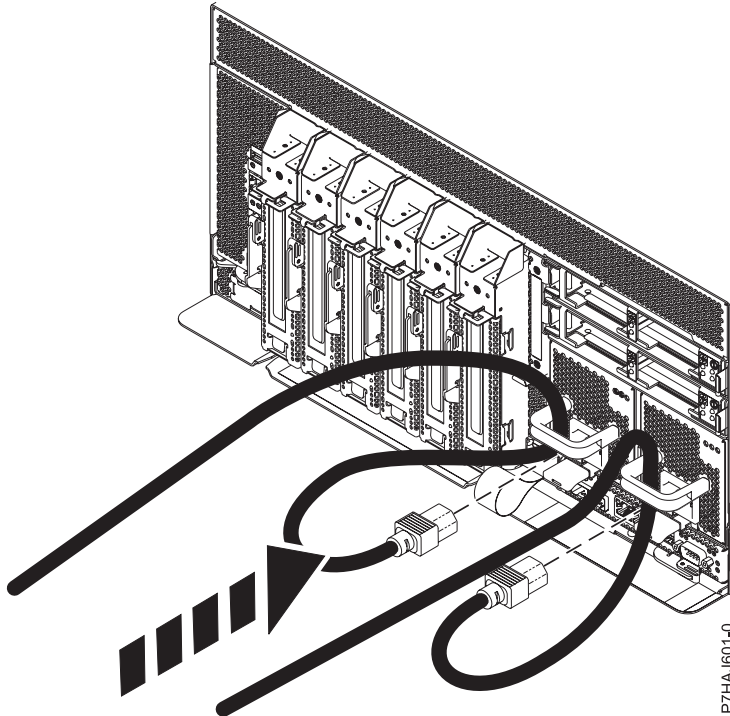

Figure 16. Connecting the power cords
2. Reconnect the power cord to the system unit as shown in Figure 16 on page 28. Ensure that the cords are threaded through the handles.